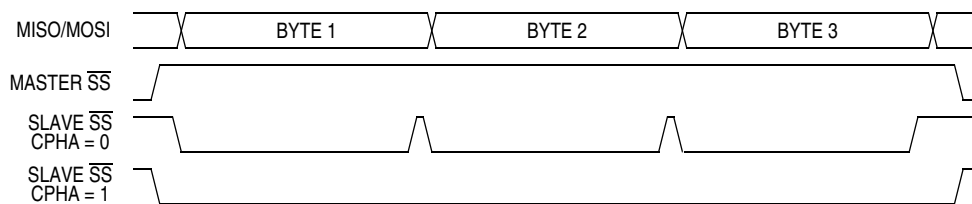

Figure 20-5. CPHA/SS Timing
Two waveforms are shown for SPSSCK: one for CPOL = 0 and another for CPOL = 1. The diagram may be interpreted as a master or slave timing diagram since the serial clock (SPSSCK), master in/slave out (MISO), and master out/slave in (MOSI) pins are directly connected between the master and the slave. The MISO signal is the output from the slave, and the MOSI signal is the output from the master. The SS line is the slave select input to the slave. The slave SPI drives its MISO output only when its slave select input (SS) is at 0, so that only the selected slave drives to the master. The SS pin of the master is not shown but is assumed to be inactive. The SS pin of the master must be high or must be reconfigured as general-purpose I/O not affecting the SPI. See 20.7.2 Mode Fault Error. When CPHA = 0, the first SPSSCK edge is the MSB capture strobe. Therefore, the slave must begin driving its data before the first SPSSCK edge, and a falling edge on the SS pin is used to start the slave data transmission. The slave's SS pin must be toggled back to high and then low again between each byte transmitted as shown in Figure 20-5.